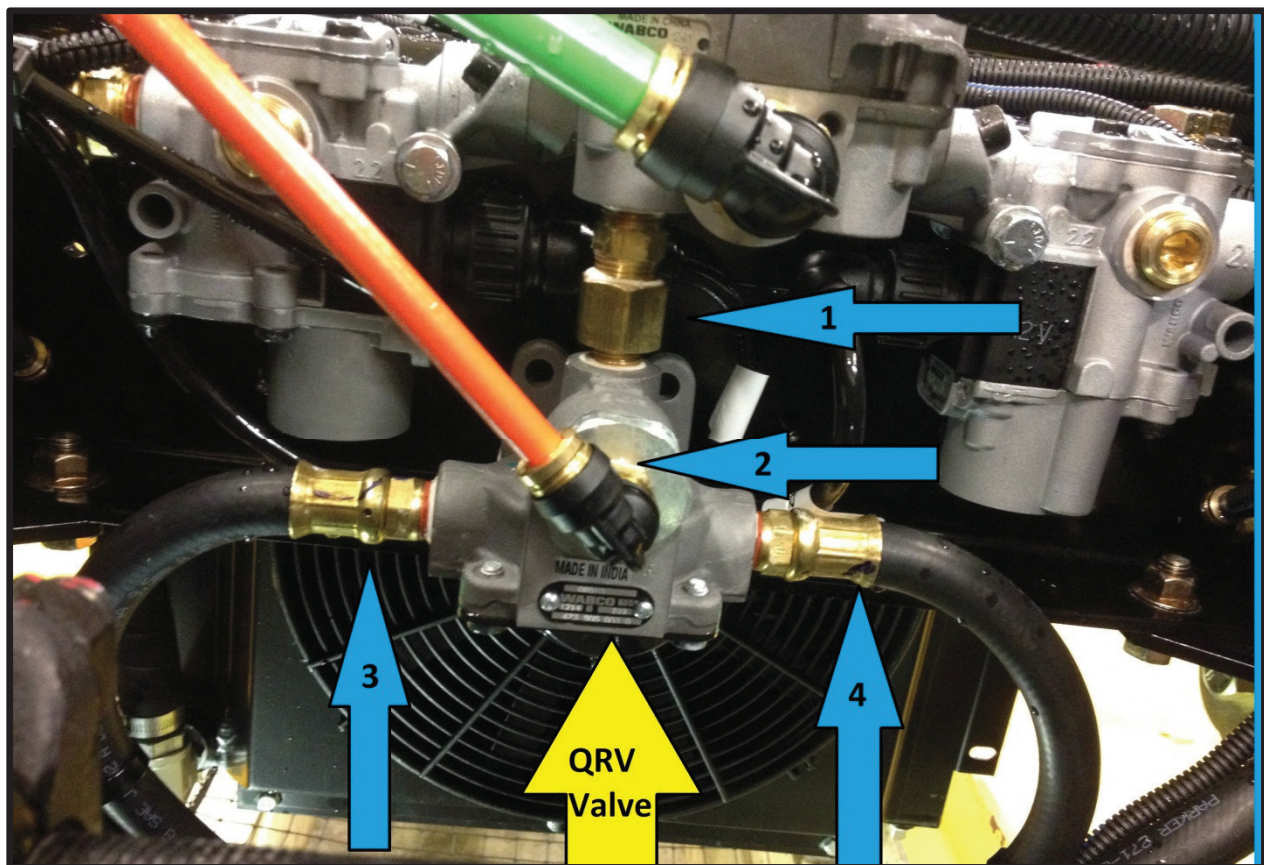

FIG. 3-1
3. Using FIG. 3-1 as a guide remove save the following: